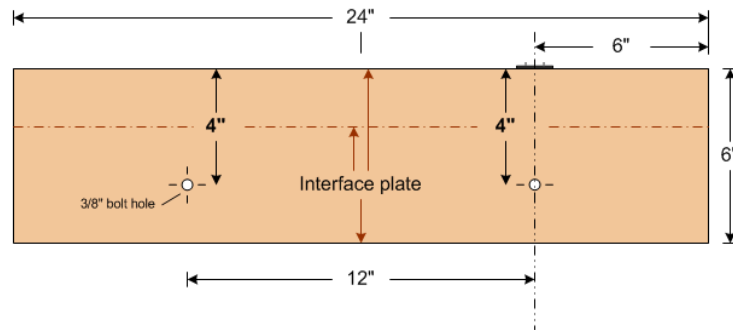

Figure 1
Mounting holes – Interface plate must have $\frac{3}{8}$ inch holes placed as shown in figure 1. These holes are used with 2 inch by $\frac{1}{4}$ inch standard bolts to physically connect modules.
- Track centerline must be 6 inches in from one end of the interface (excluding fascia material, see Figure 1)